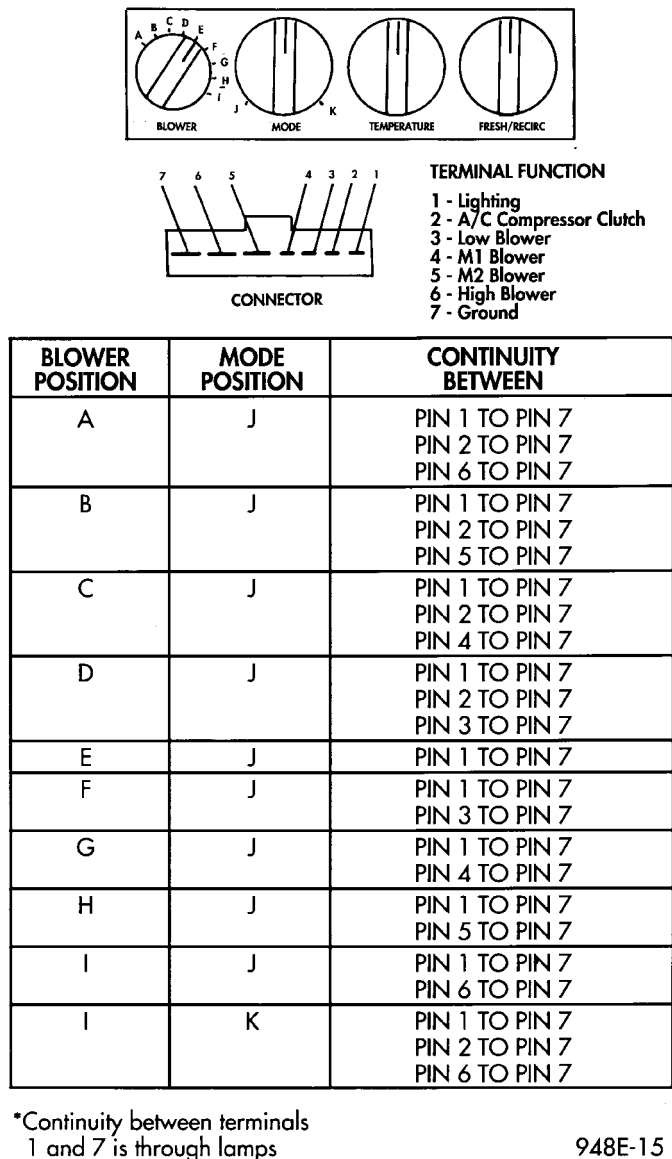

Fig. 9 Blower Switch Test
(1) Remove Heater A/C control module. Refer to Heater A/C Control Removal procedures.
(2) Use a ohmmeter, and check continuity between the terminals of the switch as shown in the Blower Switch Test (Fig. 9).
(3) If the switch fails any part of the continuity test, other than Pin 1 to Pin 7, replace Heater A/C Control. If no continuity between Pin 1 to Pin 7 check the lamps, replace if necessary.